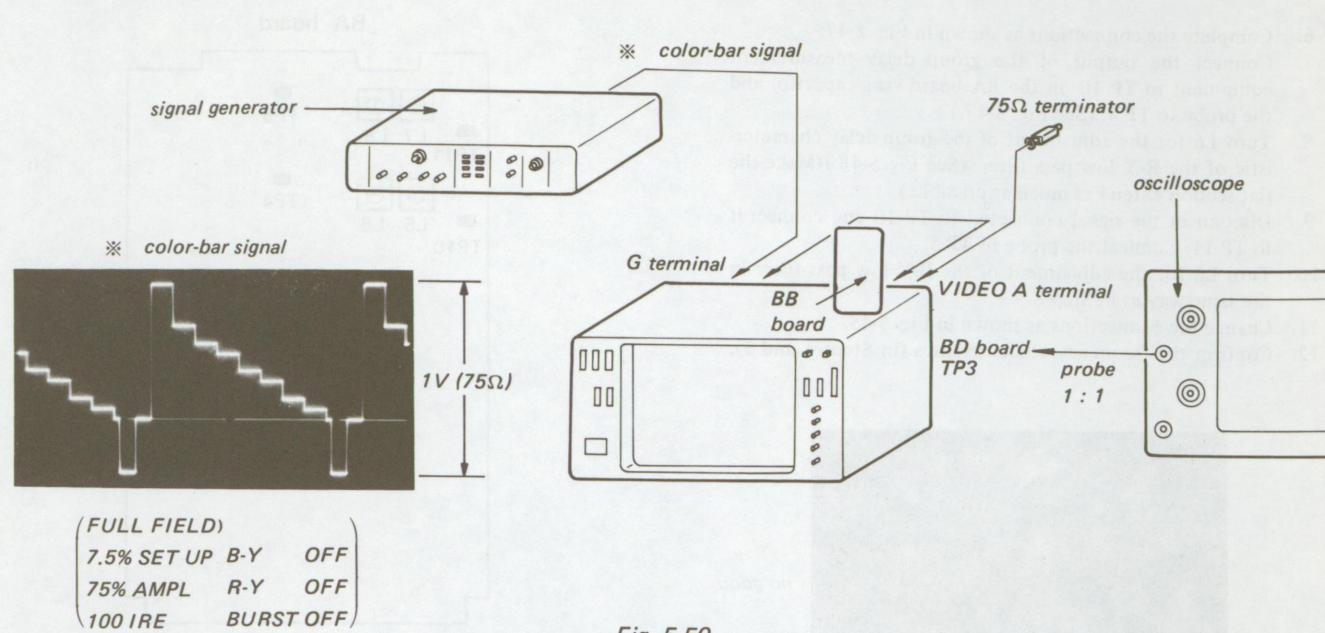

Fig. 5-50.
1. Complete the connections as shown in Fig. 5-50.